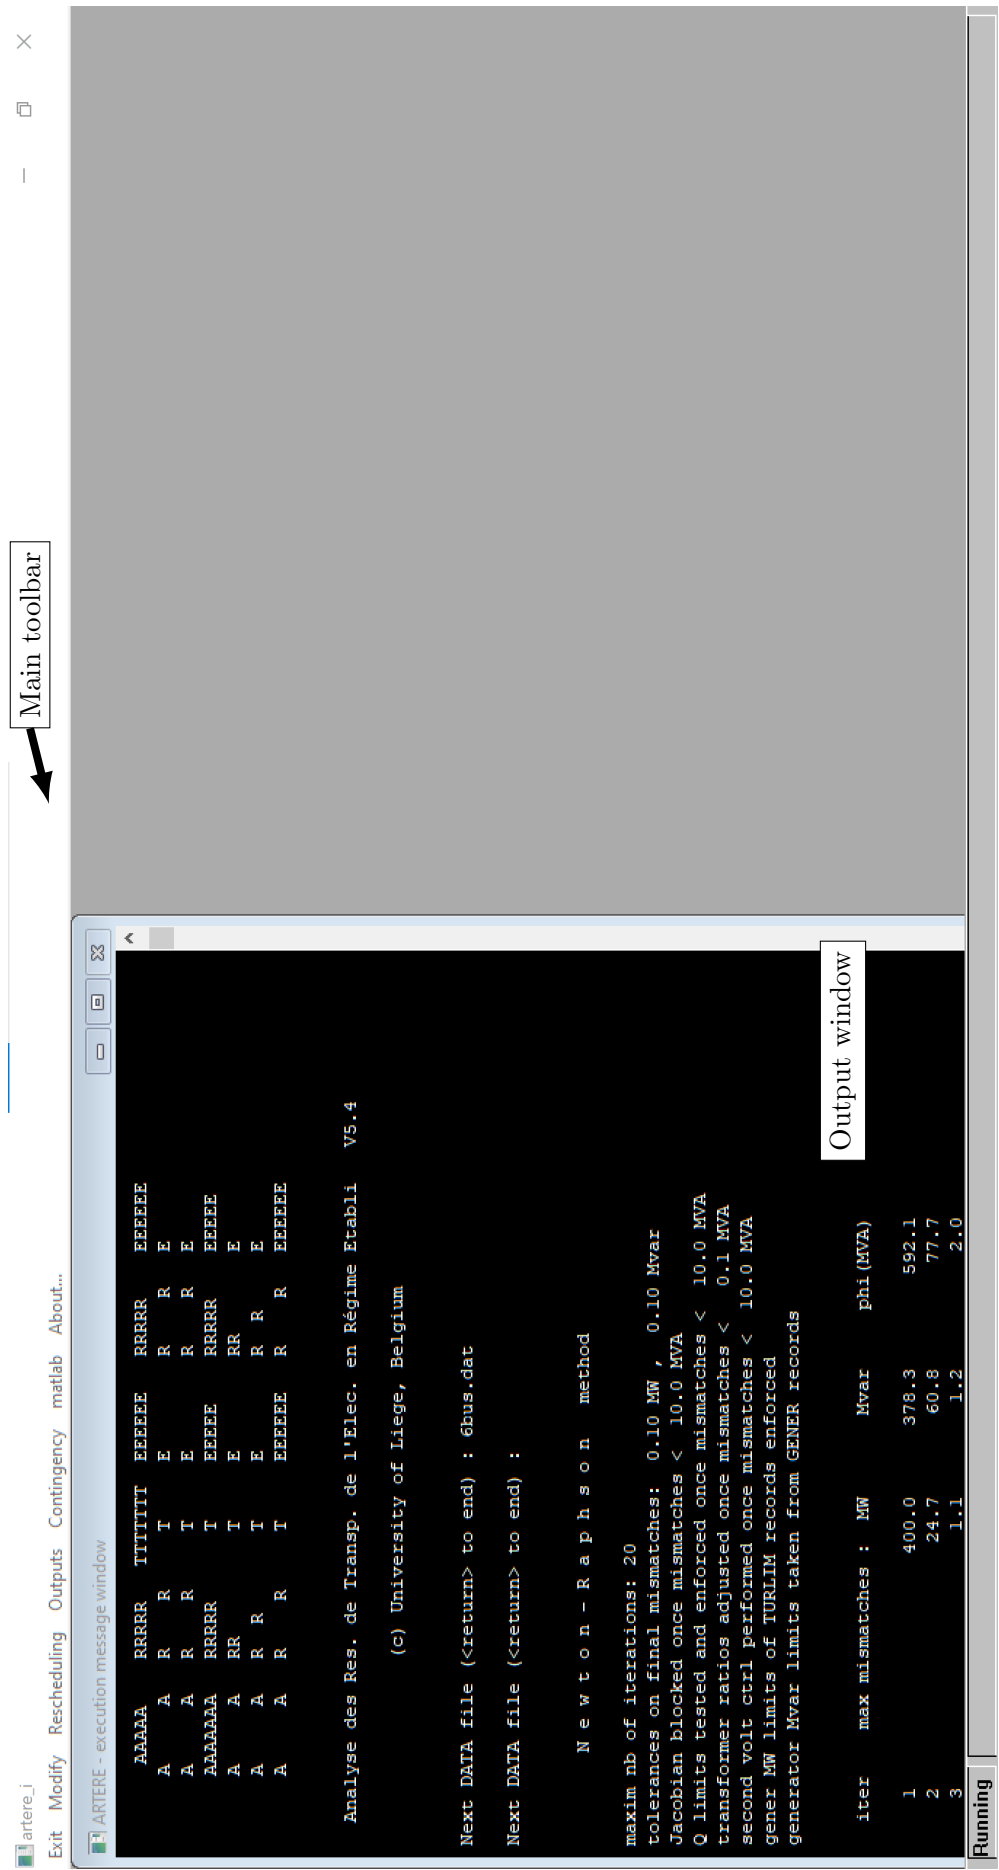

Figure 1: Main window of ARTERE
The main window of ARTERE and its different parts are shown in Fig. 1.
- Start the ARTERE executable by double clicking on it. You should see a user interface like in Figure 1. **If you don't see anything, then contact the instructor.**
- If your load flow calculation has been successful and you don't get any errors, you should see the same as in Figure 1.